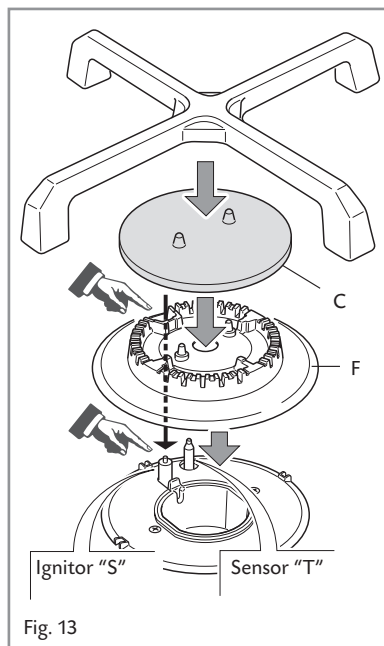

Fig. 13
- It is very important to check that the burner flame spreader **F** and the cap **C** have been correctly positioned (see figs. 13 and 14). They shall be level and must not rotate.